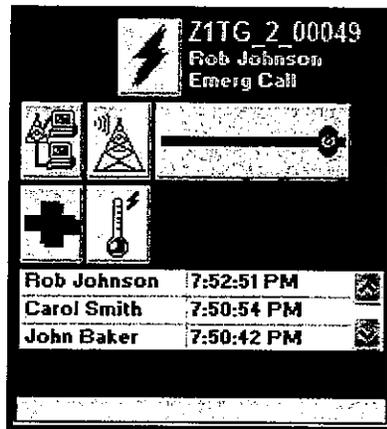

Figure 1-4: Expanded Radio Resource
- **Expanded Resource** – This radio resource always shows the indicators and controls (Figure 1-4) and cannot be compressed. The expanded version provides the advantage of a single-button press for any function. It is ideal for dispatchers who are only monitoring a few channels/talk groups and where space in the resource folder is not at a premium.